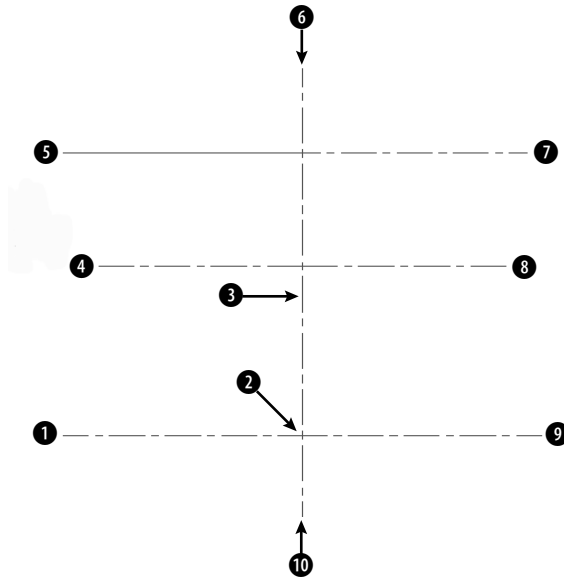

**Figure 21-19:** These centerlines are the basis for drawing a chair.
3. Choose Circle from the Draw toolbar. Use the From object snap to specify the center at an offset from ❶ (in Figure 21-19) of @2,0. Set the radius to 0.5.
9. Choose Polyline from the Draw toolbar. At the Specify start point: prompt, choose the From object snap. Use the Center object snap of the top of the circle near **1** in Figure 21-19 for the base point and an offset of @-2,0. (You may have to press the Tab key until you get the Center object snap.) Continue to pick points **4** through **10**. Notice that the Endpoint object snap symbol appears at the height of the first point. Then right-click and choose Close to close the polyline.